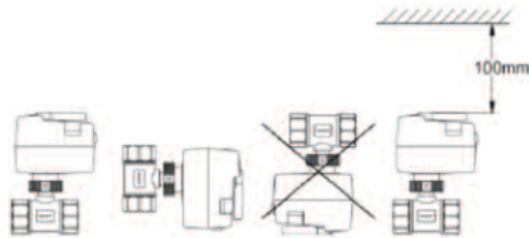

Figure 2
2. 3-way valves are installed by matching the pipe male connection to the 3HBAV female valve connection. Do not mount the 3HBAV upside down. For the correct direction of the 3HBAV placement (see Figure 2).